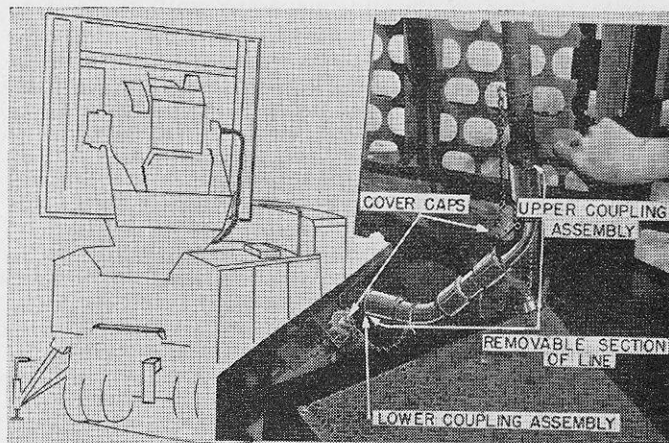
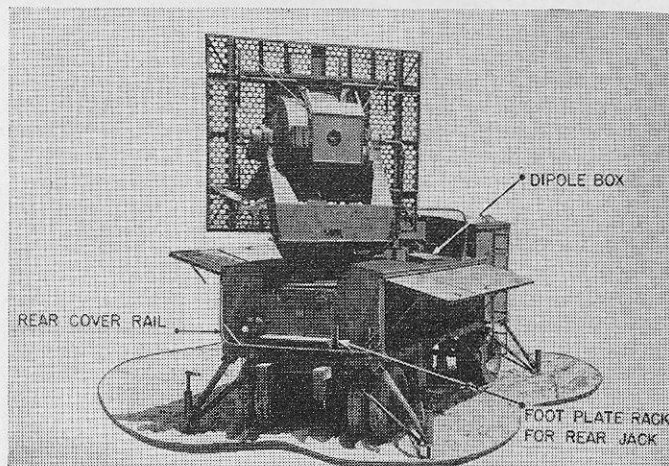

FIGURE 40.—Installation of antenna transmission line.
FIGURE 41.—Rear view of trailer in operating position.
l. Remove the eight outside ends of the outside SEARCH dipoles from the box on the roof of the trailer (fig. 41).
q. Remove the transmission line section carried in the box shown in figure 41 and install it as shown in figure 40. Make